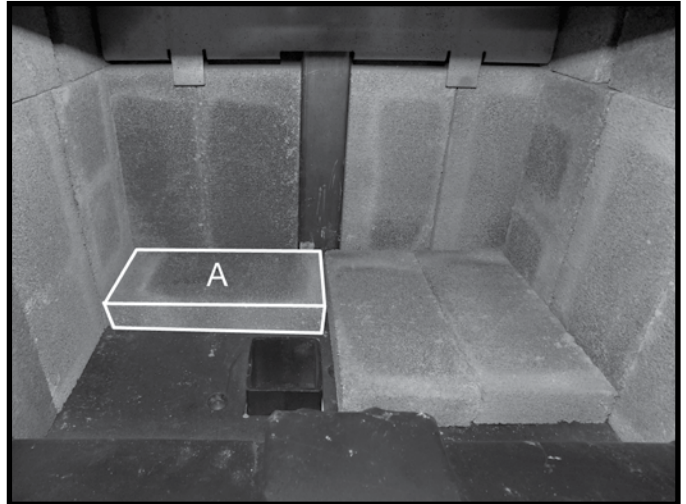

Figure 29: Third floor brick in place.
9. Place a third "A" firebrick against the rear wall as shown in Figure 29.